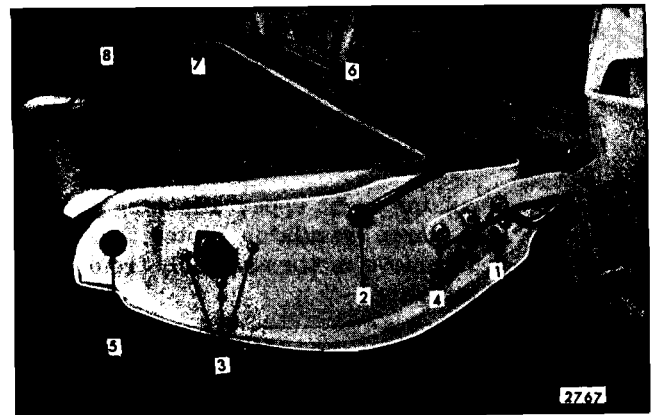

Fig. 9-47—Tail Gate Hardware - Right Side
3. Remove screws securing lock to tail gate (Fig. 9-47).
- Remove torque rod bearing plate (Fig. 9-47).